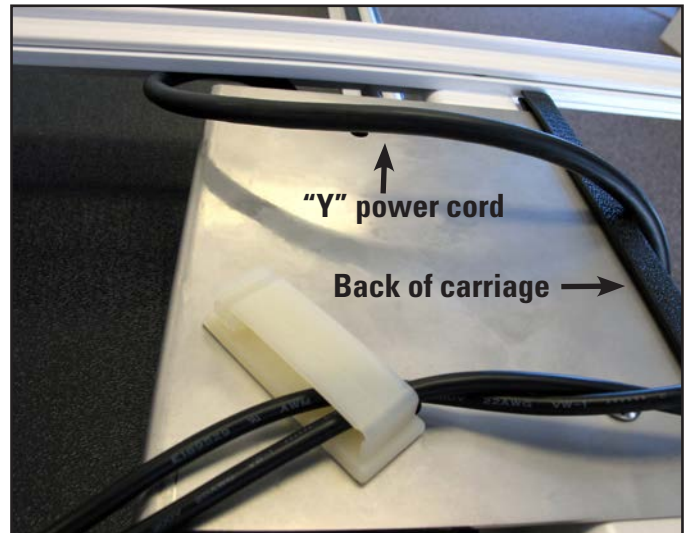
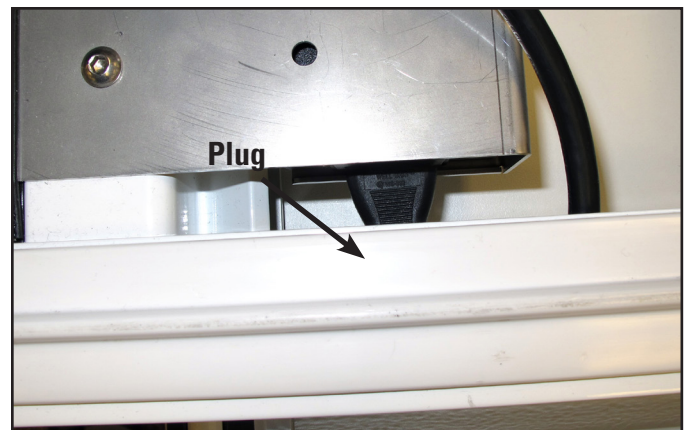

Figure 3.13
Figure 3.14
1. With the Pro-Stitcher carriage set properly on the frame system, untie the black twist ties that are binding the black cables in a loop. Drape the black cables over the back of the carriage as shown in **Figure 3.13**.
2. Plug one branch of the new “Y” power cord (Page 3.3) into the power supply located toward the rear of the carriage (**Figure 3.14**). Route the power cord as shown in **Figure 3.13**.